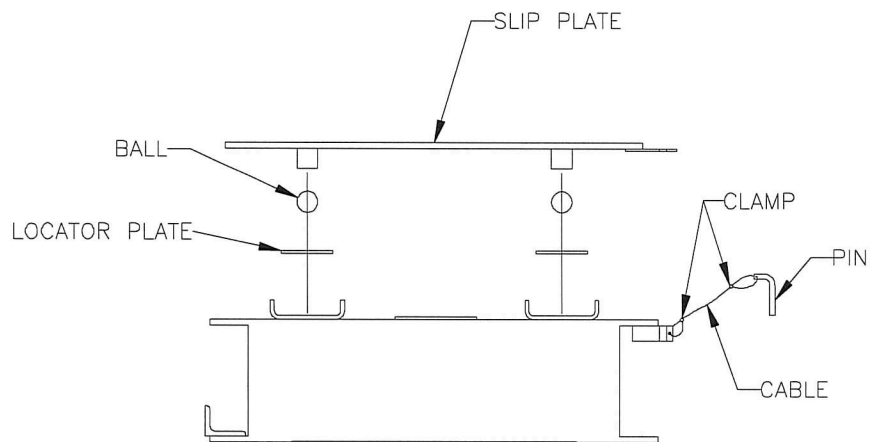

FIGURE 14. SLIP PLATE ASSEMBLY
35. Activate the Alignment Track slip plates by raising the slip plates and installing the balls into the holes in the spacer plates. Apply wheel bearing grease to the balls. 10 balls go under each slip plate. See Figure 14.
36. Attach the "L" pins to their locking blocks on the outside of the tracks using the cables and clamps provided. Attach the pins using 2 loops as illustrated. Using only 1 loop will not allow the pins to work correctly. See Figure 14.